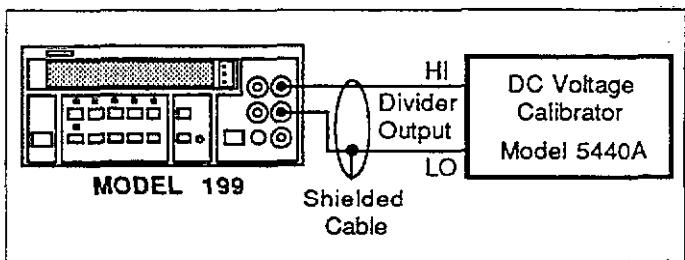

Figure 6-1. DC Volts Calibration Configuration (300mV Range)
2. Connect the DC calibrator to the instrument as shown in Figure 6-1 (300mV range only; use Figure 6-2 for 3V-300V ranges).